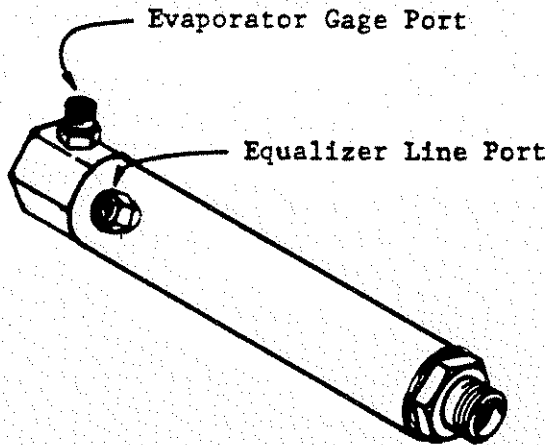

Fig. 2
- a. The S.T.V. valve shown in fig. 2 has two ports, one is used for the evaporator test gage connection and one is used for the equalizing line. The evaporator test gage port is used when testing evaporator pressure, otherwise this port is not used and is protected with a plastic cap.